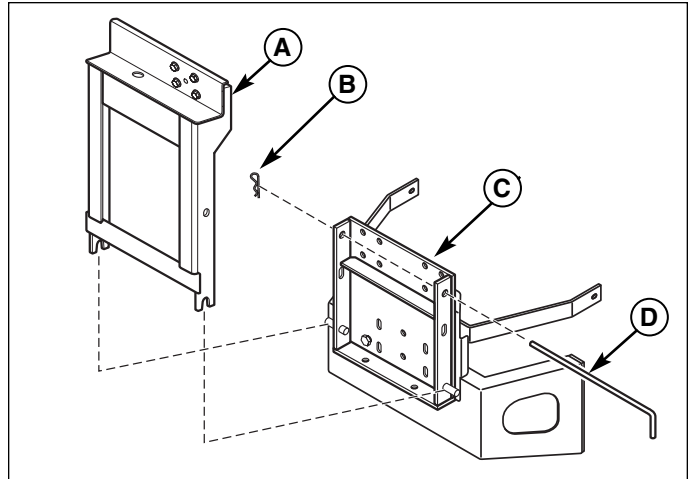

Figure 19. Install Back Plate (Flat Style Bumper)
1. Set the back plate and support (A, Figure 19) onto the pins of the hitch plate (C). Secure with rod (D) and hair pin (B).